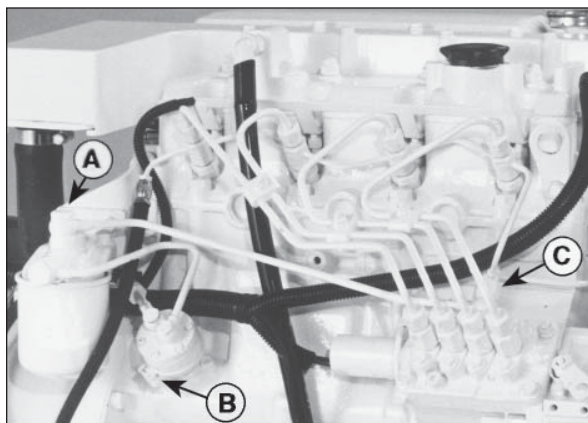

Figure 8: M844K2/ M844Lk2 Fuel System.
2. Loosen bleed bolt “A” (Figure 8) on top of the filter. Pump hand primer “B” on fuel lift pump until pure fuel (no bubbles) escapes from bleed bolt “A”. Tighten bleed screw “A”.